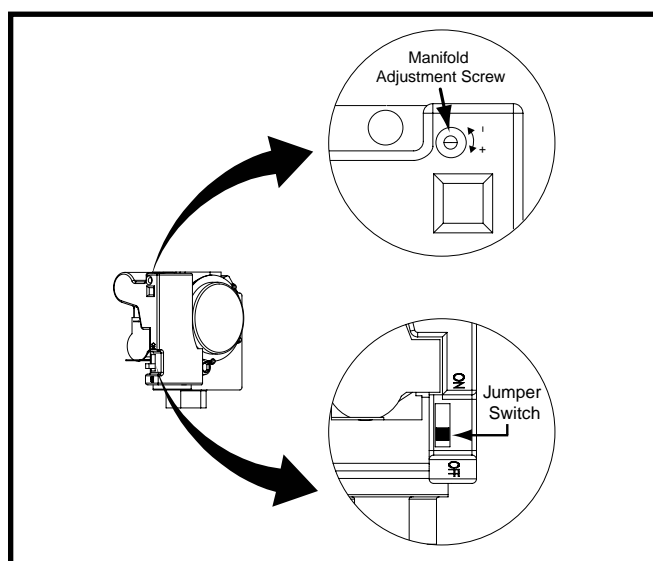

Figure 22. Modulating Gas Valve
- b.) Using a small screw driver, turn the adjusting screw (Figure 22) on the regulator to adjust the full input setting.